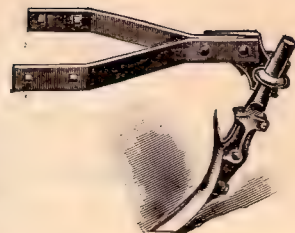

Fig. 116
**Fig. 116.** This **Fallow Tooth Attachment** will fit our Nos. 60, 61, 50 and 51 "IRON AGE" Riding Cultivators, and when applied to these tools are perfect Fallow Cultivators. They are used largely in orchards, and in preparing land in the Fall for the sowing of grain. **Price \$1.00.**
We furnish this tool when ordered, with **Fallow Tooth Attachment** as shown in Fig. 116, page 25. Price, \$1.00. Equipped with *Spring Hoes*. Fig. 110, page 25. Add to list \$4.50.